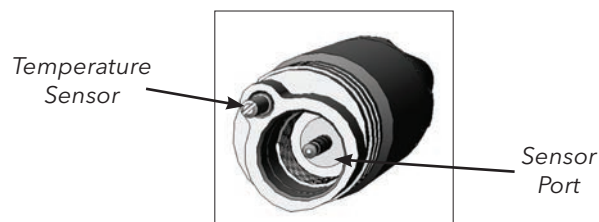

Figure 3.
"Bulkhead" refers to the sensor-end of the probe/cable assembly where an ion selective electrode (ISE - either pH or ORP) is installed (figure 3). The temperature sensor is located next to the sensor port on the bulkhead and is not replaceable.
1. Locate sensor port on the 60510 cable, see figure 3.